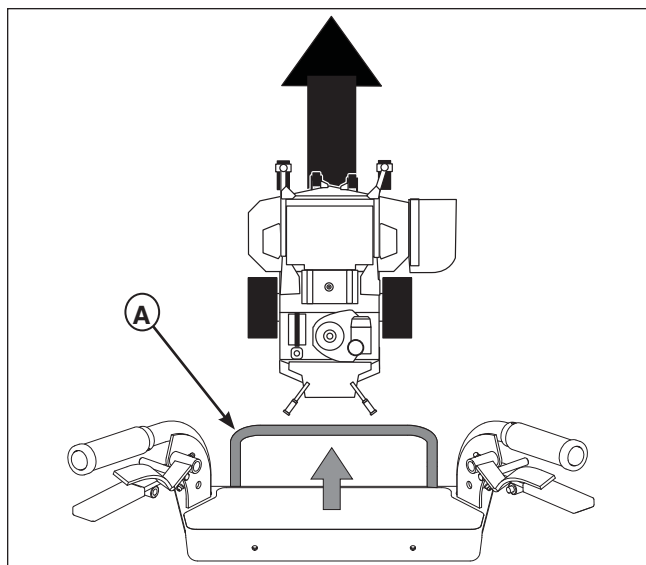

Figure 3. Forward Travel.
TO MOVE FORWARD AND SET FORWARD SPEED (See Figure 3.)
2. Gently move the forward speed control lever (A, Figure 3) forward until desired speed is achieved.